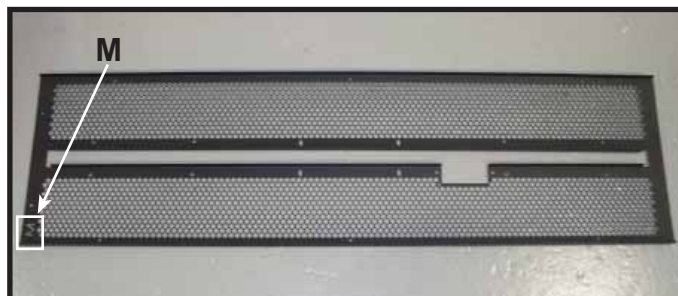

Figure 5. Base Pan
1. Verify the correct base pan is in the appliance before proceeding with the porcelain installation. The base pan required for this application has the letter “M” stamped in it. See Figure 5. If the base pan does not have the letter “M” stamped in it, contact your dealer.